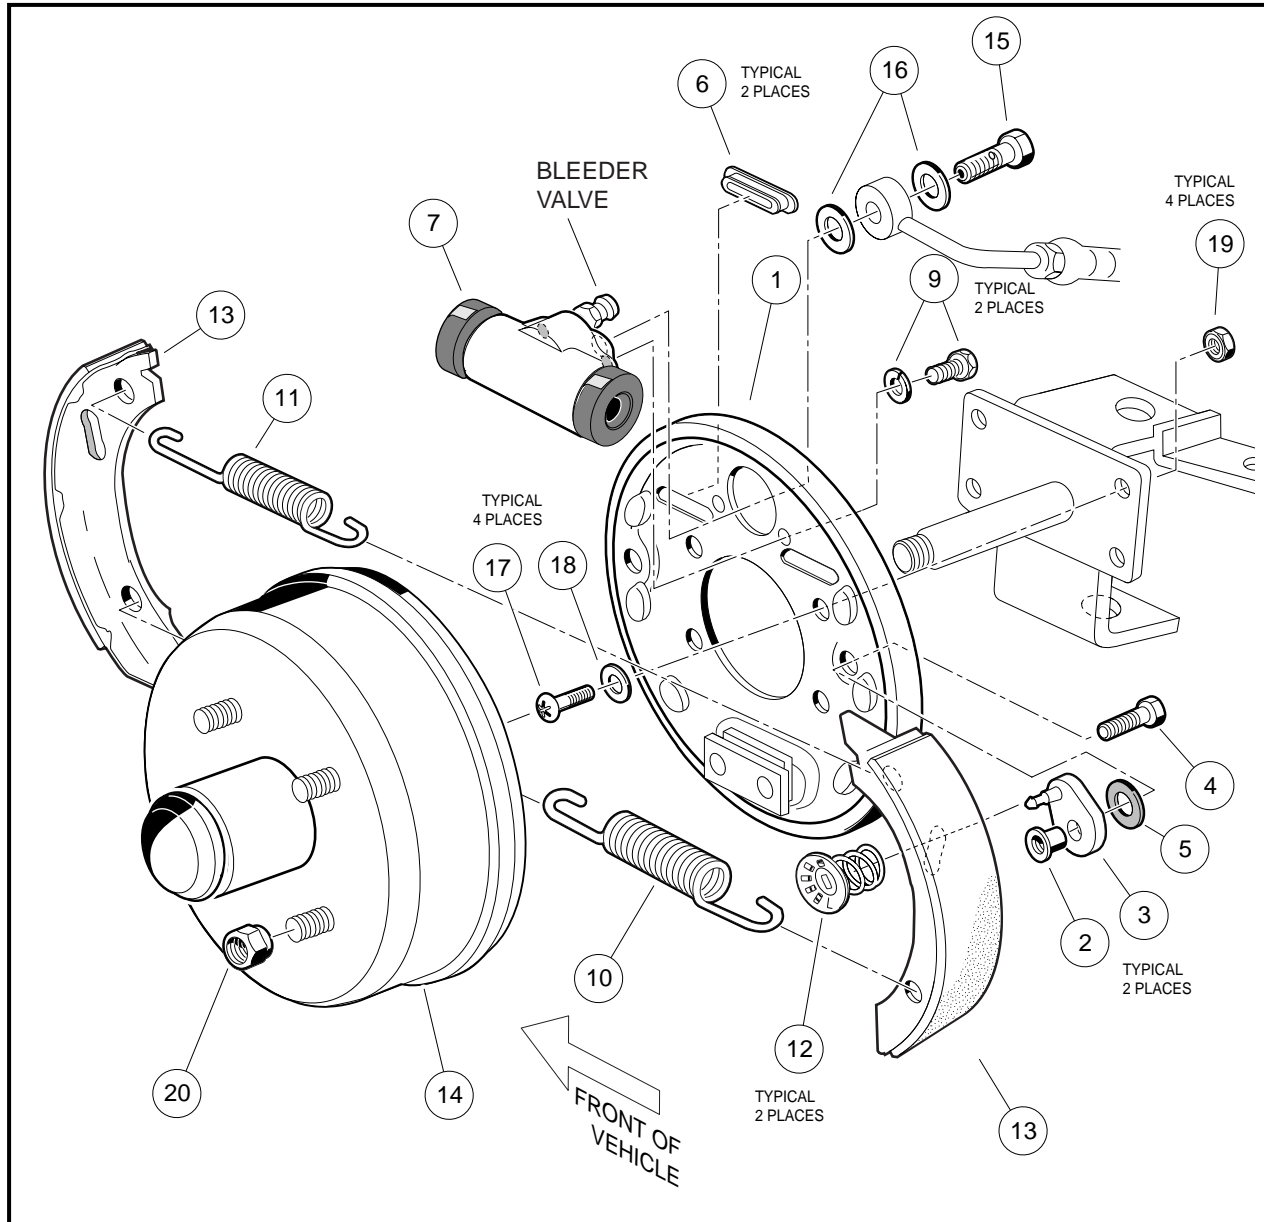

Figure 6-1 Front Hydraulic Brake Cluster Assembly
- Check each wheel cylinder (7) by pulling back the edge of each dust boot (**Figure 6-1, Page 6-2**) or (**Figure 6-18, Page 6-20**). There should be no accumulation of brake fluid in the boot. Brake fluid in the boot indicates a leaking wheel cylinder. If there is fluid in the boot, replace the wheel cylinder. **See Wheel Cylinder Replacement on page 6-19.**
- Inspect the automatic brake adjuster parts. If the adjusters (3) are frozen (requiring more than 65 in-lb (7.4 N-m) to turn freely), worn or loose, replace the adjuster assemblies in pairs (**Figure 6-1, Page 6-2**).